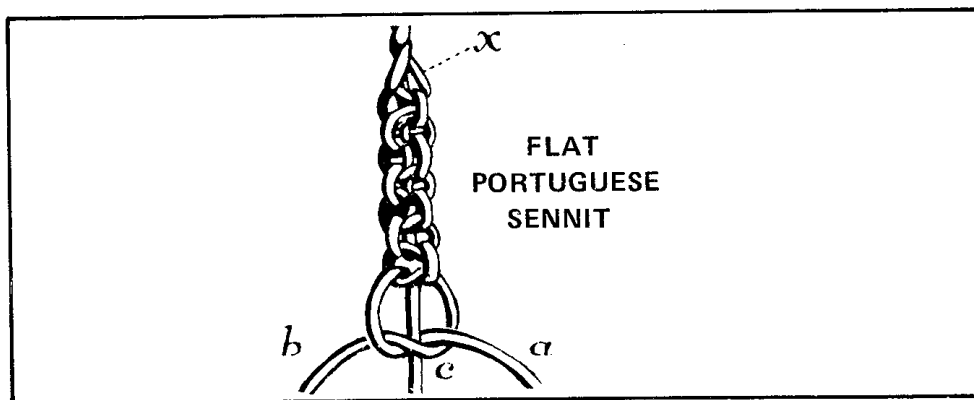

Figure 4-61 Flat Portuguese Sennit
10. **Flat Portuguese Sennit** — Figure 4-61 shows the **Flat Portuguese Sennit**. Middle the working part through the heart at X (or use two strands of a rope and leave the third as a heart). Lead one strand a. under the heart c. Lead the other strand b. under a., over c. and through the bight of a. Haul tight. Repeat but work b. under c., and a. under b. over c. and through the bight of b. Continue this process using each strand alternately. If the process is continued using the strand from the same side to go under the core each time, the sennit will spiral.